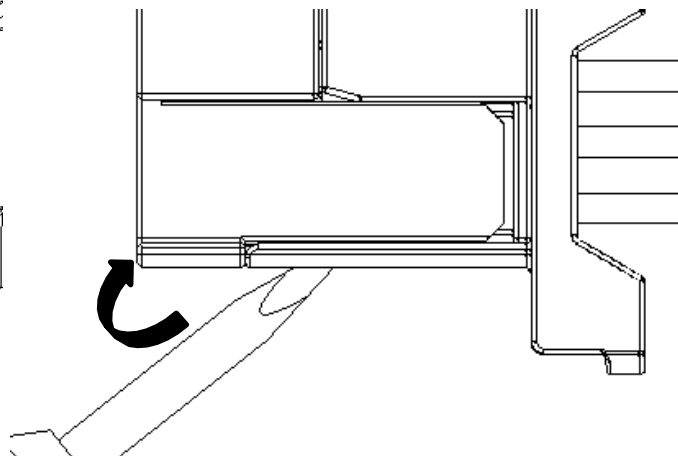

Figure 7
1. Insert a suitable tool (as described in Section 3.4) into the tapered slot on either end of the secondary lock. See Figure 7.
1. Gently rotate towards housing and lift the secondary lock until it opens (Figure 7).